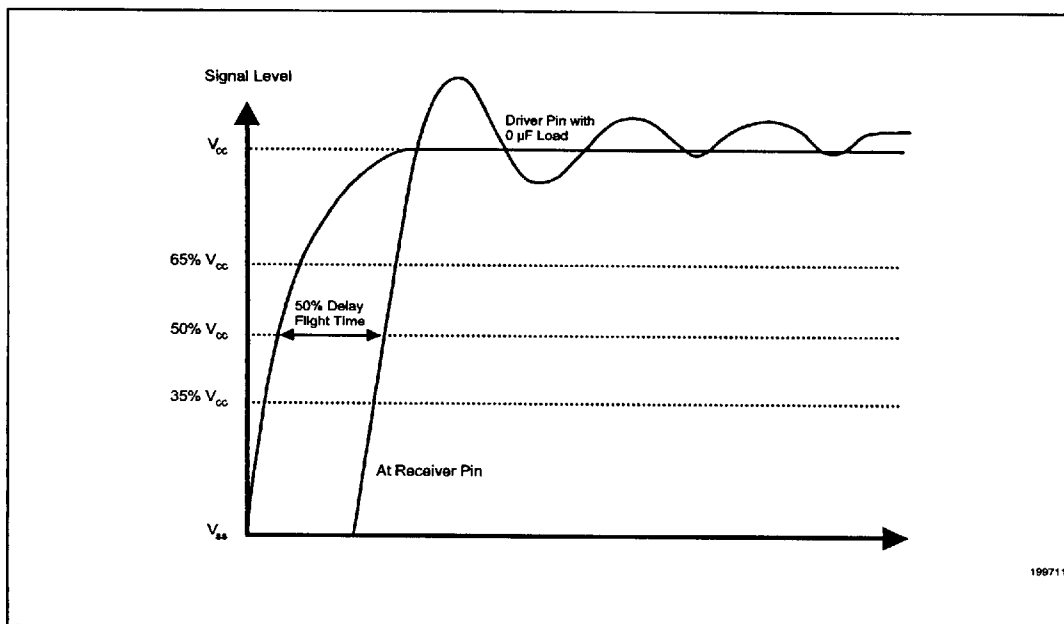

Figure 11. 50% V_{cc} Measurement of Flight Time
29. This is a flight time specification, that includes both flight time and clock skew. The flight time is the time from where the unloaded driver crosses 1.5V (50% of min V_{CC}), to where the receiver crosses the 1.5V level (50% of min V_{CC}). See Figure 11.